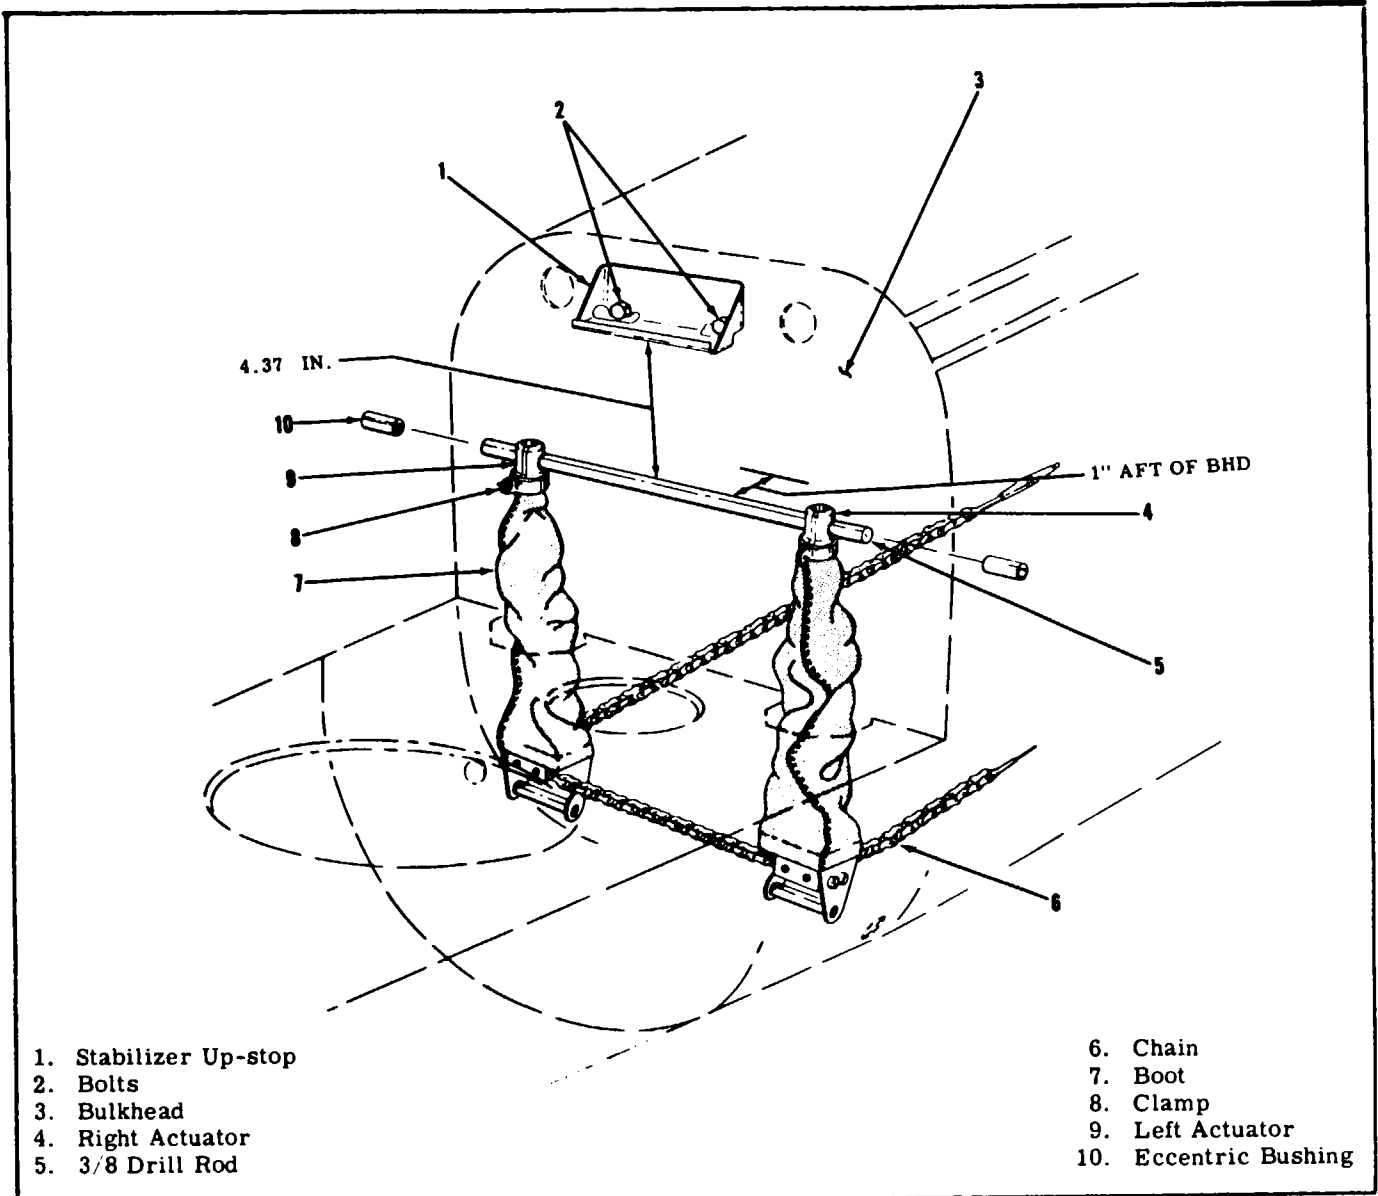

Figure 11-5. Rigging the Stabilizer Actuators
## 11-10. RIGGING THE STABILIZER CONTROL SYSTEM. (See figure 11-5.)
- e. Use two bolts (2) to position stop bracket (1) on bulkhead.
- f. Manually rotate the barrel nuts of the actuators (7) to attain the 4.37 inch measurement specified in figure 11-5. Insert a 3/8 drill rod through the tops of the actuators to check this measurement and to make sure that the jacks are adjusted to the same height.